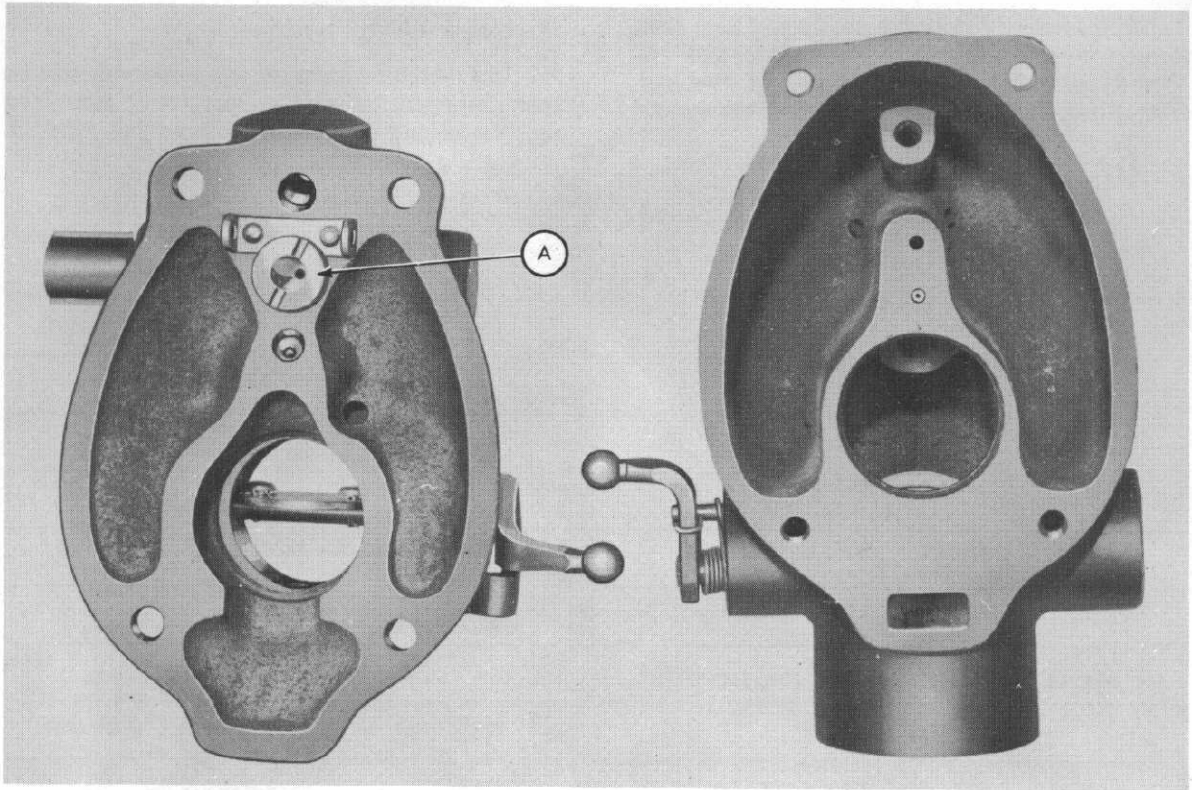

Fig. 4
- Step 7—Remove the needle valve, the seat, and the gasket (A-Figure 4).